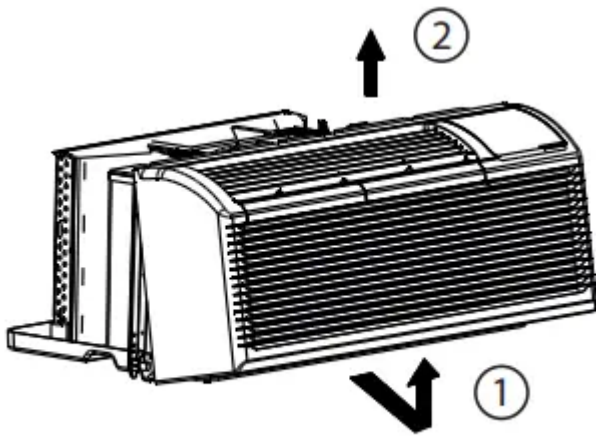

Fig. 8
- Remove the front panel. (see Fig. 8)